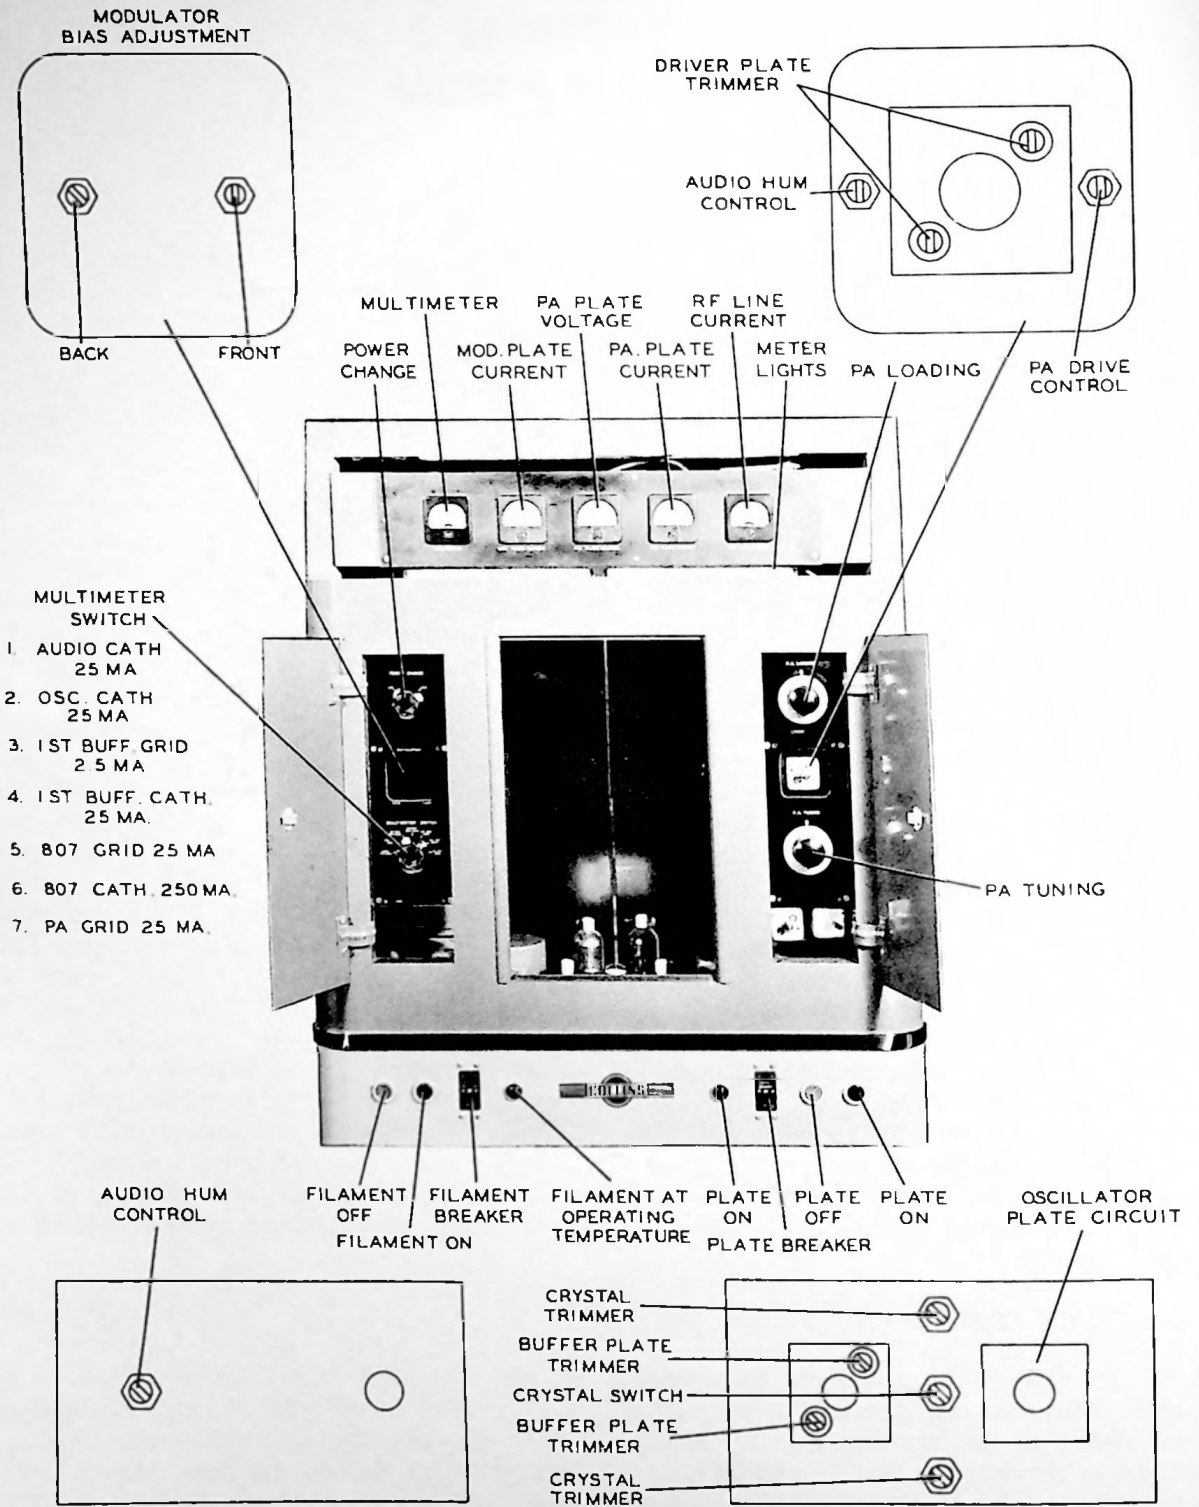

Figure 3-1. Location of Controls and Instruments
3.1. FILAMENT CONTROL (See figure 3-1.)
Crystal selector switch S-101 is located in the center of the area behind the lower right inspection plate as indicated in figure 3-1. The switch shaft is slotted for screwdriver operation. When the switch is turned to the right, the crystal toward the right side of the chassis (as viewed from the front of the transmitter) is selected.
Crystal frequency trimmer controls C-101 and C-102 are located behind the lower right inspection plate as indicated in figure 3-1. These two controls provide for small adjustments in the crystal frequency. C-101, the upper control, adjusts the frequency of Y-101, the left-hand crystal as seen from the front of the transmitter.
Multimeter switch S-102 is a two-pole, seven-position switch located behind the left door on the front of the transmitter cabinet as shown in figure 3-1. This switch inserts multimeter M-104 into any one of seven transmitter circuits. Table 4-1 lists the multimeter switch positions and typical readings for these circuits. The full scale reading of the multimeter is indicated for each switch position.
The first buffer tank circuit trimmers, C-114 and C-115, are screwdriver adjustments located behind the lower right inspection plate. The location of these two trimmers is shown in figure 3-1. They should be adjusted for maximum grid drive to the 807 rf driver stage. The trimmers are connected in parallel as shown in figure 7-4. One of the trimmers should be adjusted to give a good tuning range with the second trimmer, and all adjustments made with the second trimmer.
C-125 and C-126, the rf driver tank circuit trimmers, are screwdriver adjustments located behind the upper right inspection plate. The location of these two trimmers is shown in figure 3-1. They should be adjusted for maximum grid drive to the power amplifier. The trimmers are connected in parallel as shown in figure 7-4. One of the trimmers should be adjusted to give a good tuning range with the second trimmer and all adjustments made with the second trimmer.
The power amplifier plate circuit tuning and loading controls, C-146 and C-147, are located behind the right-hand door on the front of the transmitter cabinet as shown in figure 3-1. The PA tuning control is used to resonate the power amplifier plate circuit. An increase in loading is obtained by reducing the capacity of the power amplifier loading capacitor, C-147, while simultaneously retuning the power amplifier plate circuit to resonance by means of the PA tuning control. With a pi-L output network of the type used in the 550A-1 transmitter, any adjustment of the PA loading control will detune the output network and cause the plate current to soar. Care must be exercised to keep the PA tuning at resonance whenever the PA loading control is adjusted. The loading should be increased until the rf line current is slightly less than the desired value. The PA tuning control should then be adjusted slightly to the side of resonance that gives an increase in rf line current. The power amplifier plate current will also increase; however, the increase in power to the rf line constitutes a large proportion of the increase in power to the power amplifier circuit, thus yielding a higher plate efficiency. Adjust the PA tuning and PA loading controls to the point where the desired amount of rf line current is obtained with the highest operating efficiency. The highest efficiency will always be obtained with the power amplifier plate circuit tuned slightly on the capacitive side of resonance.
Power change switch S-103 is located behind the left door on the front of the cabinet as shown in figure 3-1. A resistor is connected in series with the high voltage to the power amplifier plate circuit. The power change switch, S-103, is connected to short this resistor for high power operation and remove the short for low power operation. This switch may be operated regardless of whether the transmitter is on the air or not. Minor corrections in power output are made by the power amplifier tuning and loading controls.
PA drive control R-182 is a screwdriver adjustment located behind the upper right-hand inspection plate as shown in figure 3-1. It is used to vary the rf driver screen voltage in order to regulate the grid drive applied to the power amplifier. PA drive control R-182 should be adjusted at the same time and in the same manner as audio hum control R-120, described in paragraph 3.13 below. When adjusted in this manner, optimum voltage will be applied to the rf driver screen circuit.
Audio hum control R-120 is a screwdriver adjustment located behind the upper right inspection plate as shown in figure 3-1. It is a variable resistor used to shift the ground point of the power amplifier filament circuit to a point which will minimize the hum caused by the ac filament voltage. The other audio hum control, R-146, is the only control located behind the lower left inspection plate. The position of this screwdriver adjustment is indicated in figure 3-1. The operation of this control is the same as that of audio hum control R-120; it shifts the ground point of the modulator filament circuit to minimize hum.
Modulator bias adjustments R-162 and R-163 are located behind the upper left inspection plate as indicated in figure 3-1. These two screwdriver adjustments control the amount of negative bias applied to the grids of the individual modulator tubes. Turning R-162 counterclockwise increases the amount of bias applied to V-108, the modulator tube near the front of the cabinet. To adjust these two controls, inject a 1000-cycle signal of sufficient amplitude to modulate the carrier 95%. Vary R-162 and R-163 until minimum distortion is indicated on a distortion analyzer. R-149 can be used to adjust the total modulator plate current. If one tube shows excessive dissipation when the point of minimum distortion is found, try a different combination of modulator tubes.
k. Select the desired crystal, using crystal selector switch S-101. (See figure 3-1.)
o. Set the multimeter switch to the position designated 807 grid, 25 ma., and adjust the buffer plate tank trimmers for maximum 807 grid current. These two trimmers, C-114 and C-115, are located behind the lower right inspection plate, as shown in figure 3-1. The two trimmers are connected in parallel; one of the trimmers should be set to provide a good tuning range with the second.
level. Adjust PA Drive Control R-182 and audio hum controls R-120 and R-146 to reduce the noise to a minimum value. The location of these controls is shown in figure 3-1.